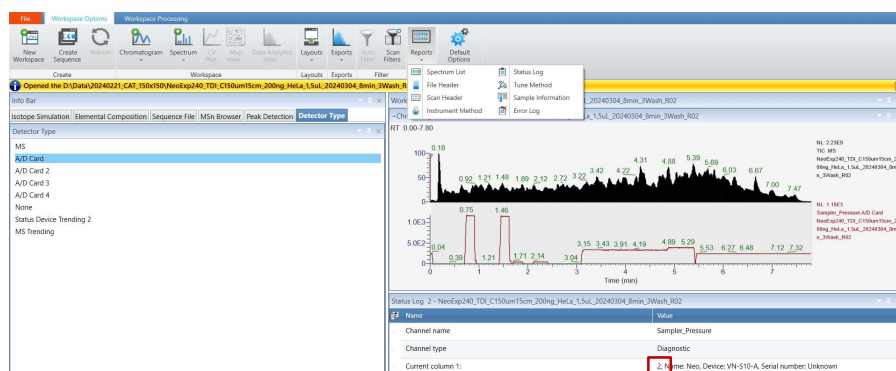

Figure 128: Sample chromatogram displayed in FreeStyle with the “active column” used to acquire the data file displayed.
1. Program a new method. In the Basic Tandme Settings for the Workflow, changes the **Duration to 10 minutes** and the **delay to 2.3 minutes** (see Figure 128)
7. Program a new method. In the Basic Tandme Settings for the Workflow, changes the **Duration to 10 minutes** and the **delay to 2.3 minutes** (see Figure 128)
TIP The active column used for the sample data acquisition is displayed under the name “Current column 1.” The integer value in the title is misleading. It is the value property (‘2’ in the example in Figure 128) which defines the column.